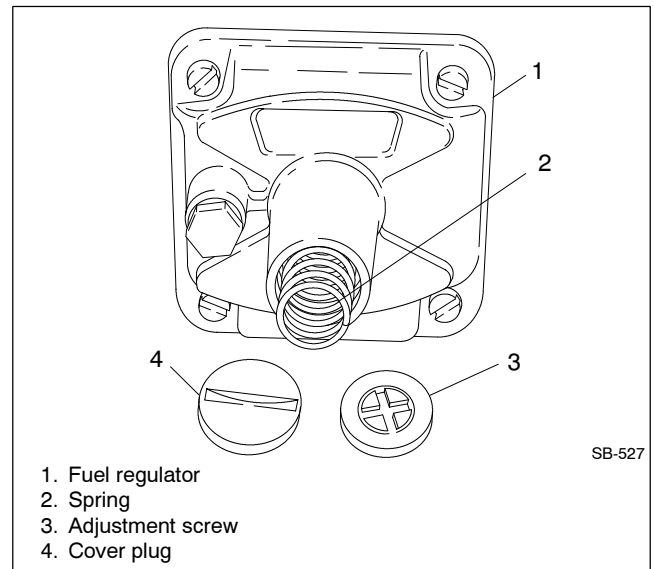

Figure 5 Fuel Regulator Components
3.1 Remove the fuel regulator cover plug. See Figure 5.